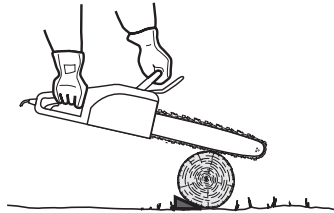

Fig. 37
- If the wood diameter is large enough for you to insert a soft bucking wedge without touching the chain, you should use the wedge to hold the cut open to prevent pinching (Fig. 37).